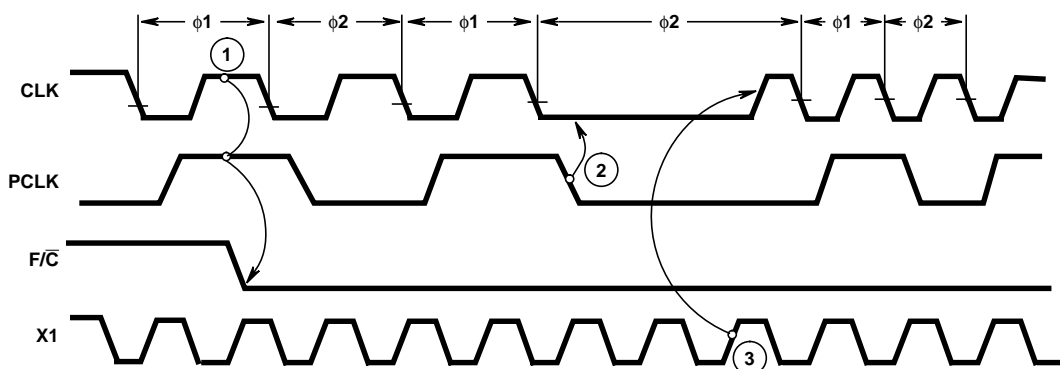

FIGURE 1A. F/C SWITCHED FROM HIGH (USING EFI INPUT) TO LOW (USING THE CRYSTAL INPUT X1)
- A) F/C switched from high (using EFI input) to low (using the crystal input X1 - see Figure 1A).